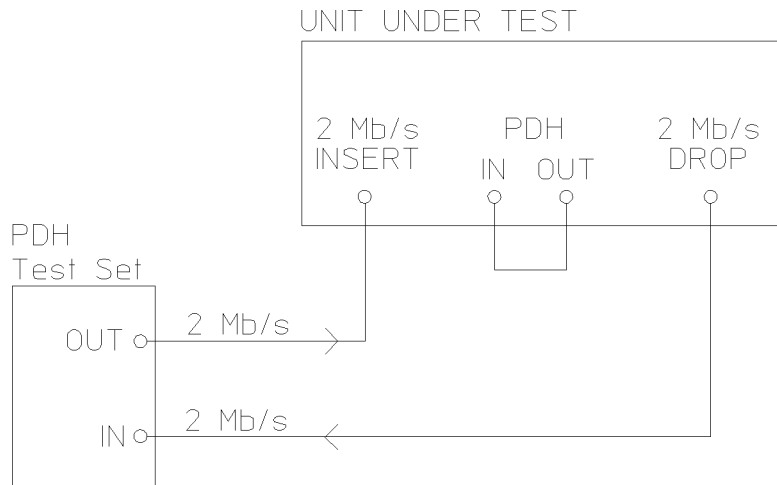

Figure 3-2
- 2 Connect the equipment as shown in Figure 3-2.